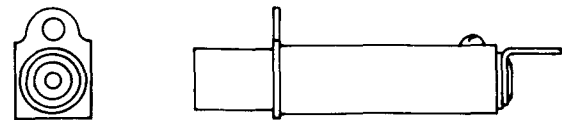

Fig. 19—488A Jack
**2.14 488A**: This single-mounted jack (Fig. 19) has coaxially arranged inner and outer contacts which are mounted in a tubular metal frame. One end of the 488A jack is designed for soldered wire connections to the inner and outer contact terminals. This jack is not designed for a coaxial cable connection. The test voltage is 2000 volts ac. The 488A jack is used in the IF switching and distributing amplifiers of the TD-2 Radio Relay Station.